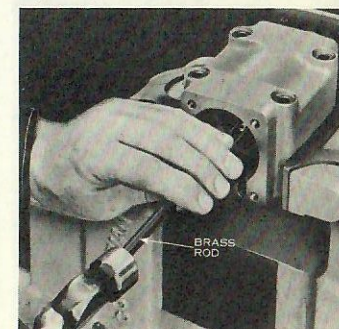

FIG. 22-1
5. Remove piston rod, Fig. 22-1.